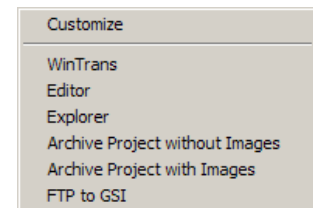

Figure 2: Archive V-STARS projects and FTP to GSI.
- 1) Under the Tools menu select either "Archive Project without Images" or "Archive Project with Images" (Figure 2).
- Under the Tools menu, select FTP to GSI (Figure 2). A DOS screen will appear that will display the FTP process.